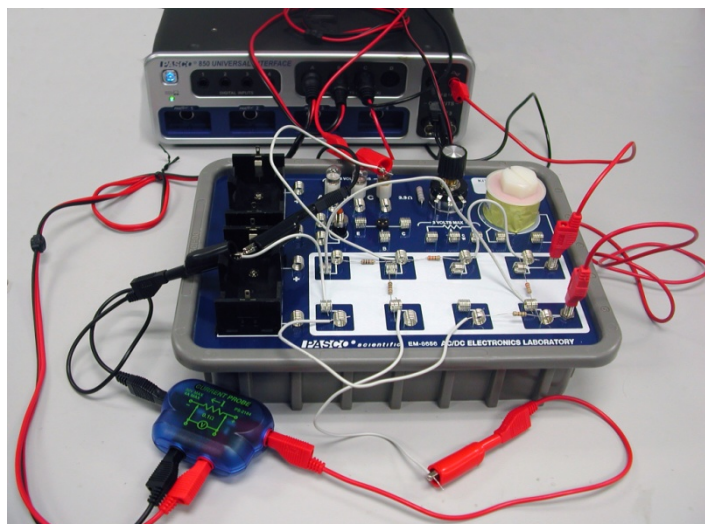

Figure 9: Connecting the Voltage Probes
- Plug Voltage sensors into Channels B and C on the 850. The black leads from both are attached to the black side of Output 1 on the 850. The red side of Output 1 is attached to the upper banana input (V_o) on the circuit board as shown in Figure 9. The red lead from Analog input C is attached to the lower banana input (V_c) on the circuit board. The red lead from Analog input B is attached to the white wire coming from the junction point A between the three resistors. It will measure V_a .